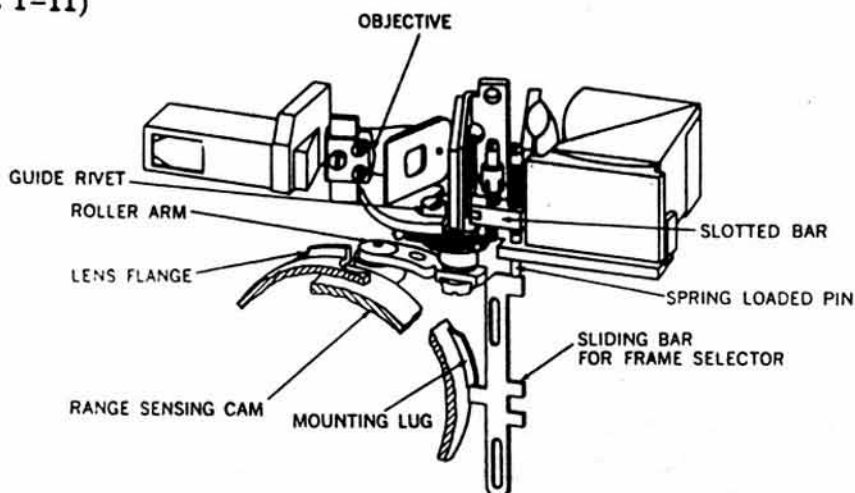
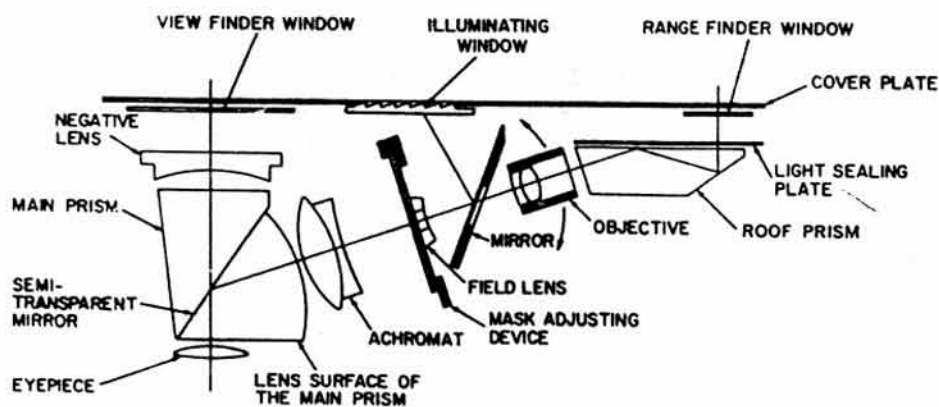

Figure 1-11. Range-Viewfinder, Mechanical Schematic.
Figure 1-12. Range-Viewfinder, Optical Schematic.
(Fig. 1-11)
a. Rangefinder (fig. 1-12)
Basically, the rangefinder is optical triangulation of fixed and movable images of the subject being photographed. The fixed image is the viewfinder image, and the movable image is controlled by a swinging objective lens. A cam on the camera lens focusing mount, through the rangefinder roller arm, transmits the focusing movements to the rangefinder objective lens (fig. 1-11). When the two images coincide, the lens is correctly focused.
- (1) *Optical system.* Rays from the subject enter the fixed roof prism and are inverted. They pass through the objective lens, the mirror aperture, and an opening in the field lens, and are focused in the plane of the bright-line frames. An opening in the center of the metal mask permit formation of an aerial image. The image is viewed through the eyelens, and combines with the viewfinder image in the beam-splitting prism.
- (2) *Mechanical functioning* (fig. 1-11, 26). As the lens focusing mount is rotated, a cam on its rear surface, actuates the rangefinder roller arm. A cam on the upper part of the roller arm axel (23) fig. 26 moves the objective lever assembly through an arc. The swing of the objective lens changes the angle between the images. The objective lever assembly is spring loaded and mounted on ball bearing pivots (8).
b. *Viewfinder* (fig. 1-12). The viewfinder system consists of an eyelens, main prism with semi-transparent mirror, and a negative lens. A parallax-adjusting bright-line frame assembly outlines the field of various lenses. Disassociated optically, but coupled mechanically, is a frame selector (fig. 1-11) permitting preview of the fields covered by the 35mm, 50mm and 90mm lenses.
(1) *Optical system* (fig. 1-12).
(2) *Mechanical functioning* (fig. 1-11, 27).
- (a) *Bright-line frame assembly.* The bright-line frames are contained between two cemented glass plates. The frame, corresponding to the lens mounted on the camera, is displayed in the viewfinder by the metal mask (7), fig. 27 which slides across the glass plate. The mask is actuated over a sliding bar (fig. 1-11), by one of the mounting lugs on the camera lens.
- (c) *Frame selector.* Fields covered by the different focal length lenses may also be displayed in the viewfinder by operating a frame selector on the front of the camera. The frame selector moves a bar (fig. 1-11) which actuates a spring-loaded pin. The pin, through a slotted bar and lever arrangement, moves the metal mask across the glass plate. When the selector is pushed toward the camera lens the 90mm frame shows in the viewfinder, and when pushed away from the lens the 35mm frame is shown. The 50mm frame is positioned when the frame selector lever is in the vertical position.